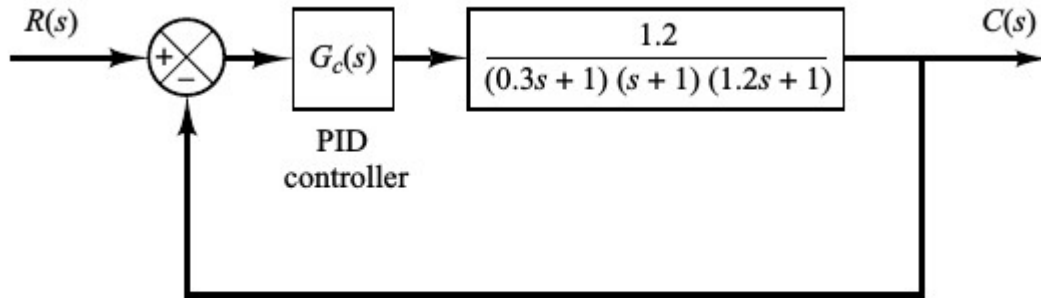

Figure 8-79
4) B-8-11. Consider the control system shown in Figure 8-79. Assume that the PID controller is given by